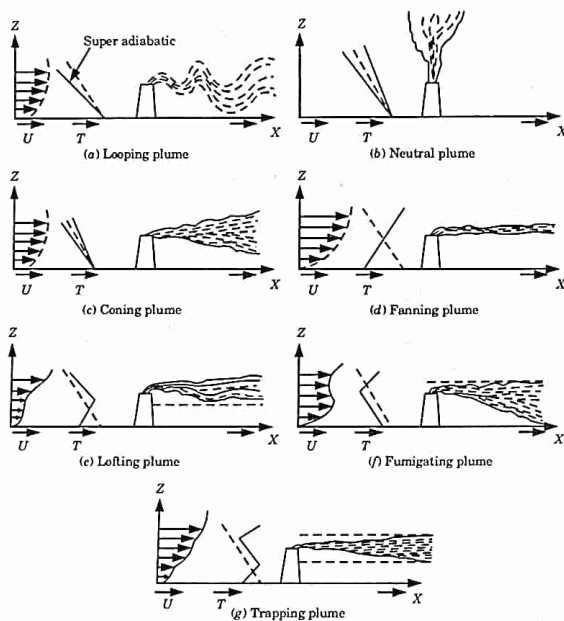

Fig. 2.6.1. Different types of plume behaviours.
1. Looping plume [Fig. 2.6.1(a)] has a wavy character and occurs in super adiabatic environment; which produces highly unstable atmosphere, because of rapid mixing.
1. Neutral plume is the upward vertical rise of the plume from the stack, as shown in Fig. 2.6.1(b), which occurs when the environmental lapse rate is equal to or very near to the adiabatic lapse rate.
1. The neutral plume tends to cone as shown in Fig. 2.6.1(c), when the wind velocity is greater than 32 km/hr, and when cloud cover blocks the solar radiation by day and terrestrial radiation by night.
4. The plume dispersion is known as coning, because the plume makes a cone like shape about the plume line, as shown in Fig. 2.6.1(c).
2. In such a case, there will be no vertical mixing, and the plume will simply extend horizontally over large distances, as shown in Fig. 2.6.1(d). Such a plume pattern is called a fanning plume.
1. When an inversion layer occurs at a short distance above the top of the stack, and super adiabatic conditions prevail below the stack, then the plume is said to be fumigating (Fig. 2.6.1(f)).
- When inversion layers exist above the emission source, as well as below the source, then naturally, the emitted plume will neither go up, nor will it go down, and would remain confined between the two inversions, as shown in Fig. 2.6.1(g).